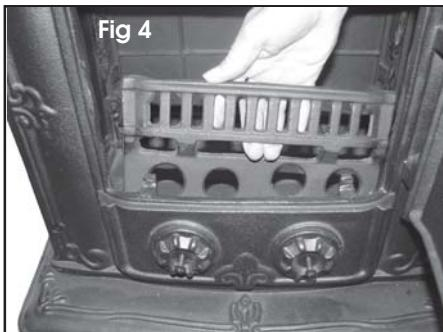

Fig 4
5. Slip the wood retainer onto its pegs inside the front door as shown in Fig 4.